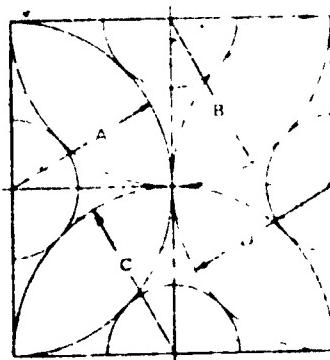

FIGURE 3
- B. Directions: Construct a 3 1/2" square centered on the right side of the vellum used for Problem A and construct a figure like the one shown in Figure 3 in that space. Construct a 3" circle from center point, and then construct four 1 3/4" radius arcs using corners or squares as center points. Draw an inner circle so that it intersects as shown in Figure 3, and complete the problem by adding center lines.